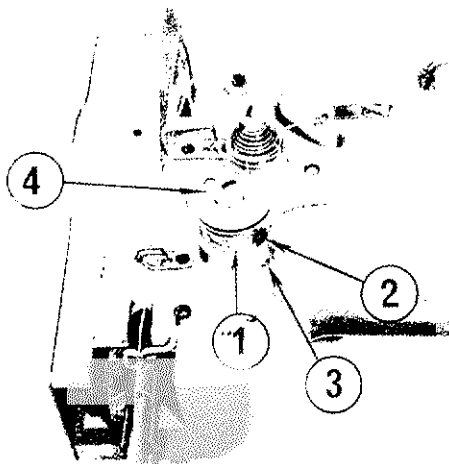

Fig. 16
### III. HOW TO ADJUST THE MACHINE (Fig. 16)
To move the thread take-up spring adjusting plate (Fig. 16 ①) in order to regulate the movement of the thread take-up spring, loosen the screw ②, Fig. 16. To increase the movement of the thread take-up spring, move this adjusting plate toward right. To make the movement of the spring less, move this adjusting plate toward left. After adjusting, be sure to tighten the screw.
To strengthen the tension of the thread take-up spring, loosen the thread controller stud set screw ③, Fig. 16 in the arm under the thread controller disc, insert a screw driver to the tip of the groove of the thread tension post (Fig. 16 ④) and turn slowly to left. To weaken the tension, turn the screw driver to right. After the adjustment, re-tighten the screw.